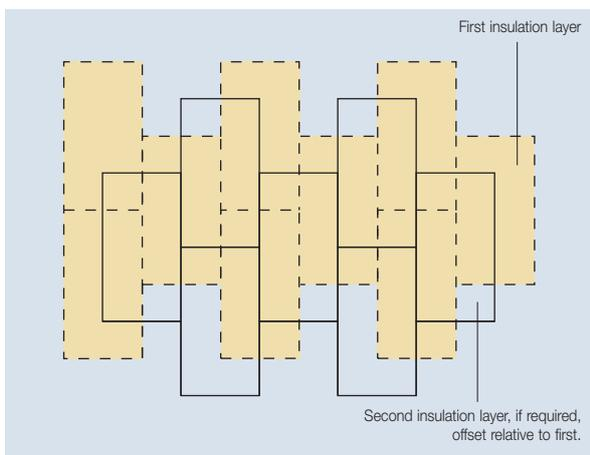

Figure 4 Offsetting of Multiple Insulation Layers
- In all cases, the layers should be horizontally offset relative to each other so that, as far as possible, the board joints in the two adjacent layers do not coincide with each other (see Figure 4).